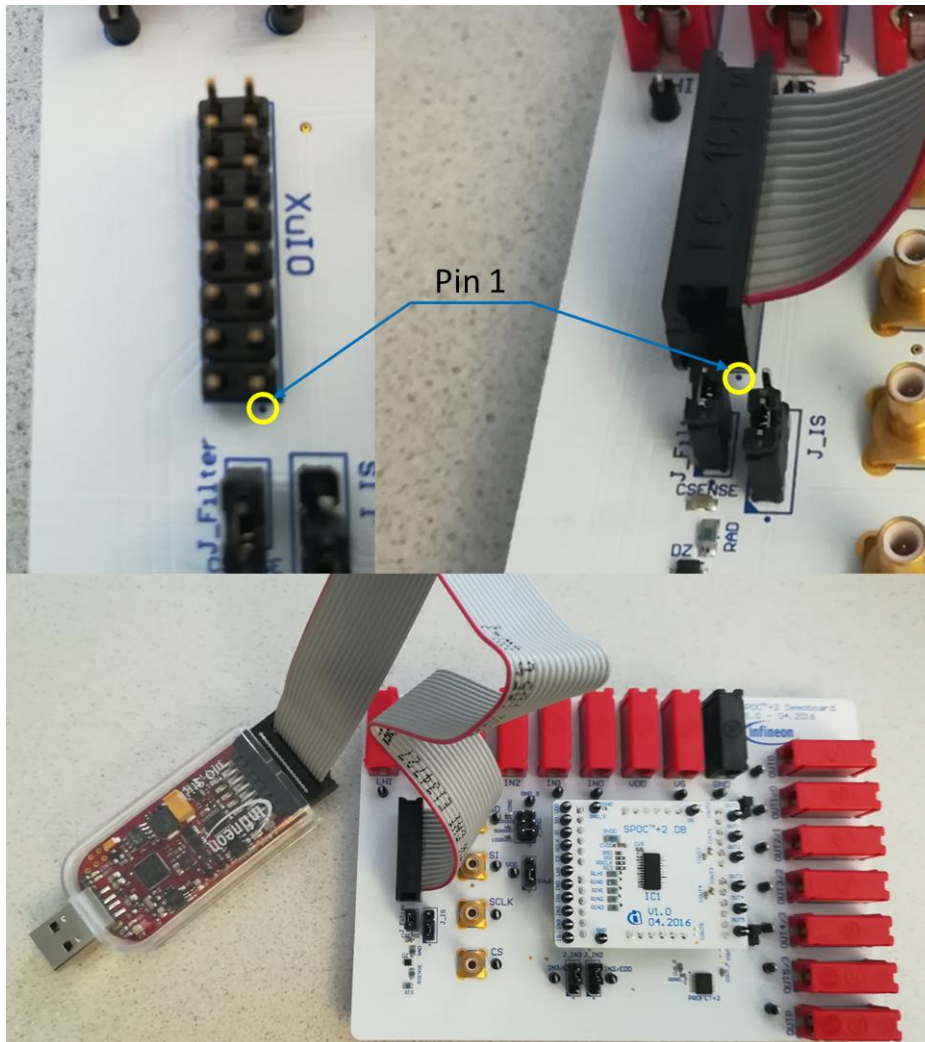

Figure 12 - Connecting  $\mu$ O-Stick to SPOC™+2 MB
- Connect the  $\mu$ O-Stick to the SPOC™+2 MB via the connector cable (see Figure 12)